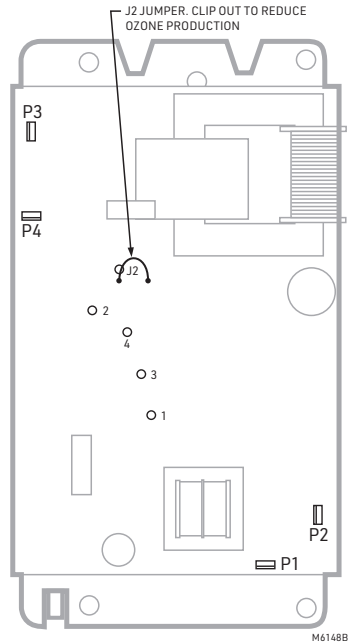

Fig. 18. Terminal J2 and cable clamp clip locations.
- Route the leads through the cable clamp and hook the cable clamp to the tab on the left front of the power supply. Push down the tab to hold the cable clamp in place. See Fig. 18.
4. Find the J2 jumper and clip it in the center; see Fig. 18. Make sure the leads are separated and cannot touch.